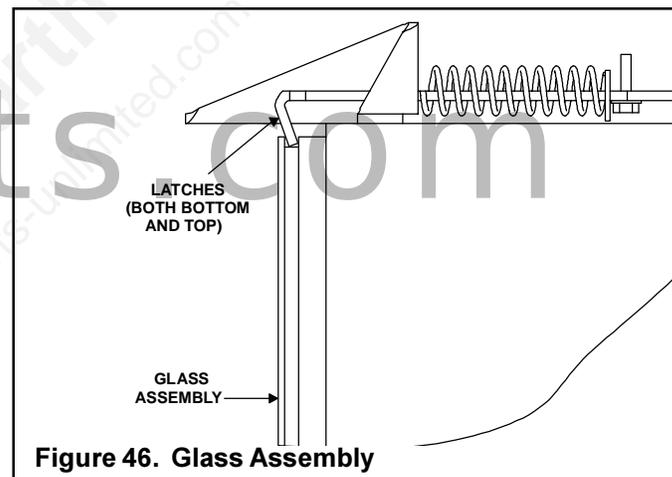

Figure 46. Glass Assembly
- Remove the glass door from the unit (see Figure 46).